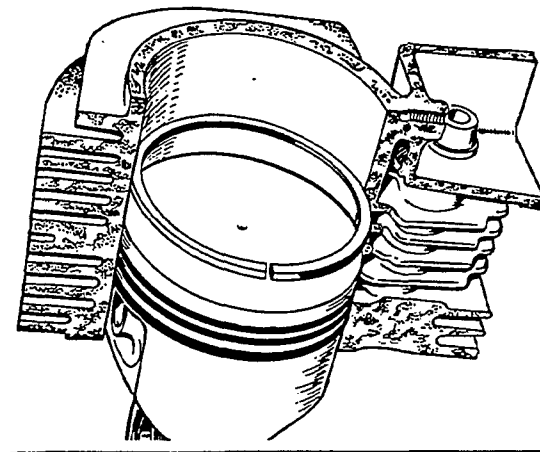

FIGURE 34. POSITIONING OF PISTON RING AND MEASURING OF END GAP
- a. Install the piston ring in the cylinder bore. Invert the piston and push the ring to the end of ring travel, about halfway into the bore, which trues the ring end gap. Check the gap with a feeler gauge as shown in Figure 34.